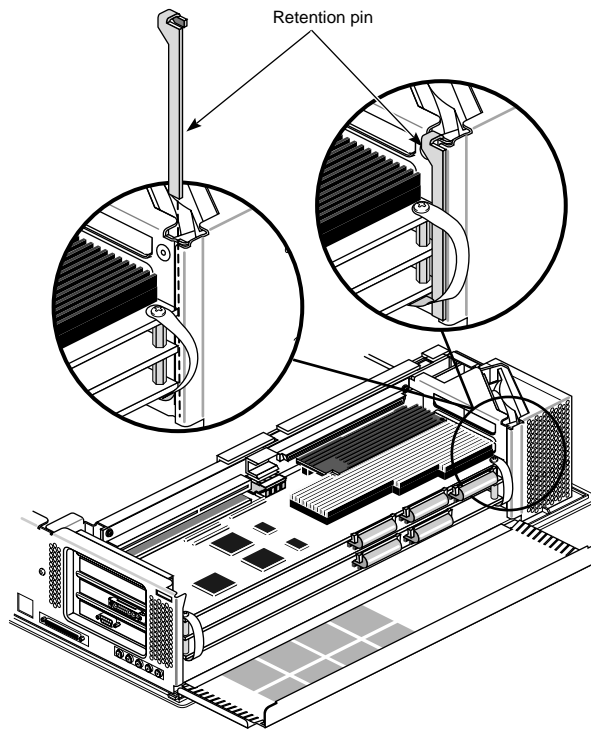

Figure 2-8 Removing the Retention Pin
3. Remove the retention pin that secures the graphics board set (Figure 2-8).